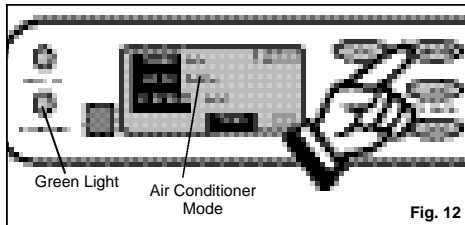

Fig. 12
- 3) Press the **MODE** key until the word **COOL** is displayed in the **LCD (Liquid Crystal Display)** window. *Fig. 12.* Each depression of the **MODE** key will advance to a different mode setting (**Cool-Dry-Heat-Fan**).